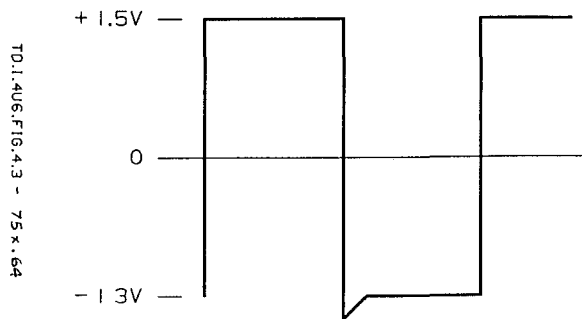

Figure 6-3. Base Pulse
2. Run the inverter and check base pulses with an oscilloscope. The ground lead of the scope should be connected to the emitter and the probe on the base. Connectors CN5 to CN8 provide access for measurement. Check all six base amplifier voltages. Figure 6-3 shows normal levels for proper operation.